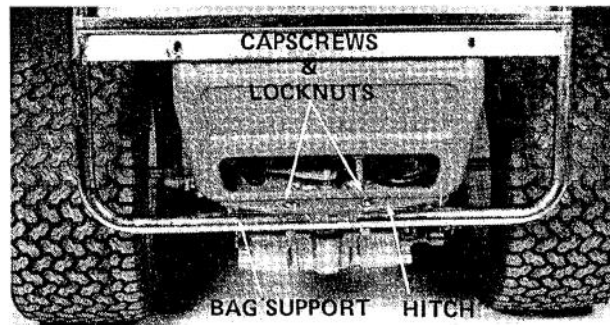

Figure 2
1. Aligning holes in hitch and bottom of bag support, loosely secure bag support to hitch with capscrews (1½" lg.) and locknuts (Fig. 2).